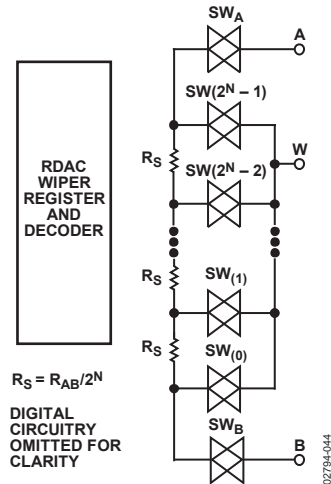

Figure 43. Equivalent RDAC Structure
The patent-pending RDAC contains multiple strings of equal resistor segments, with an array of analog switches that act as the wiper connection. The number of positions is the resolution of the device. The AD5233 has 64 connection points, allowing it to provide better than 1.5% set ability resolution. Figure 43 shows an equivalent structure of the connections between the three terminals of the RDAC. The SW_A and SW_B are always on, while the switches, SW(0) to SW(2^N-1), are on, one at a time, depending on the resistance position decoded from the data bits. Because the switch is not ideal, there is a 15 Ω wiper resistance, R_w. Wiper resistance is a function of supply voltage and temperature. The lower the supply voltage or the higher the temperature, the higher the resulting wiper resistance. Users should be aware of the wiper resistance dynamics if an accurate prediction of the output resistance is needed.
The 6-bit data-word in the RDAC latch is decoded to select one of the 64 possible settings. The following discussion describes the calculation of resistance (R_{WB}) at different codes of a 10 kΩ part. For V_{DD} = 5 V, the wiper's first connection starts at Terminal B for Data 0x00. R_{WB}(0) is 15 Ω because of the wiper resistance and because it is independent of the nominal resistance. The second connection is the first tap point, where R_{WB}(1) becomes 156 Ω + 15 Ω = 171 Ω for Data 0x01. The third connection is the next tap point, representing R_{WB}(2) = 321 Ω + 15 Ω = 327 Ω for Data 0x02, and so on. Each LSB data value increase moves the wiper up the resistor ladder until the last tap point is reached at R_{WB}(63) = 9858 Ω. See Figure 43 for a simplified diagram of the equivalent RDAC circuit. When R_{WB} is used, Terminal A can be left floating or tied to the wiper.